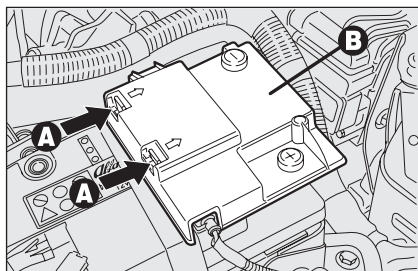

fig. 50
- ☐ operate the retaining clips **A-fig. 50** and remove the protection cover **B**;